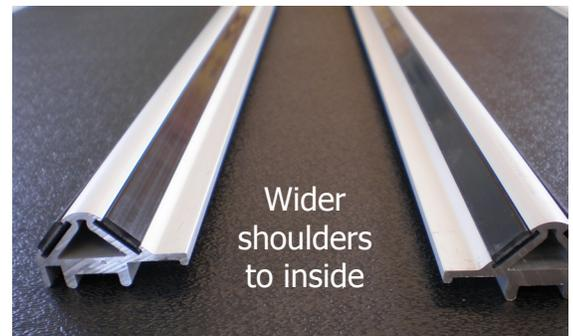

Fig. 5-5
**2-1:** Prepare the three table sections by removing the two track supports screws from each track support. Set the track supports aside. These will be reinstalled in **Step 5** see Fig. 5-5. These were assembled on the table temporarily to protect them during shipping.
**NOTE:** The extrusions have a wider shoulder on one edge of the track. This shoulder is to be placed toward the inside of the table over the edge of the black plastic tabletop. (Fig. 5.5)